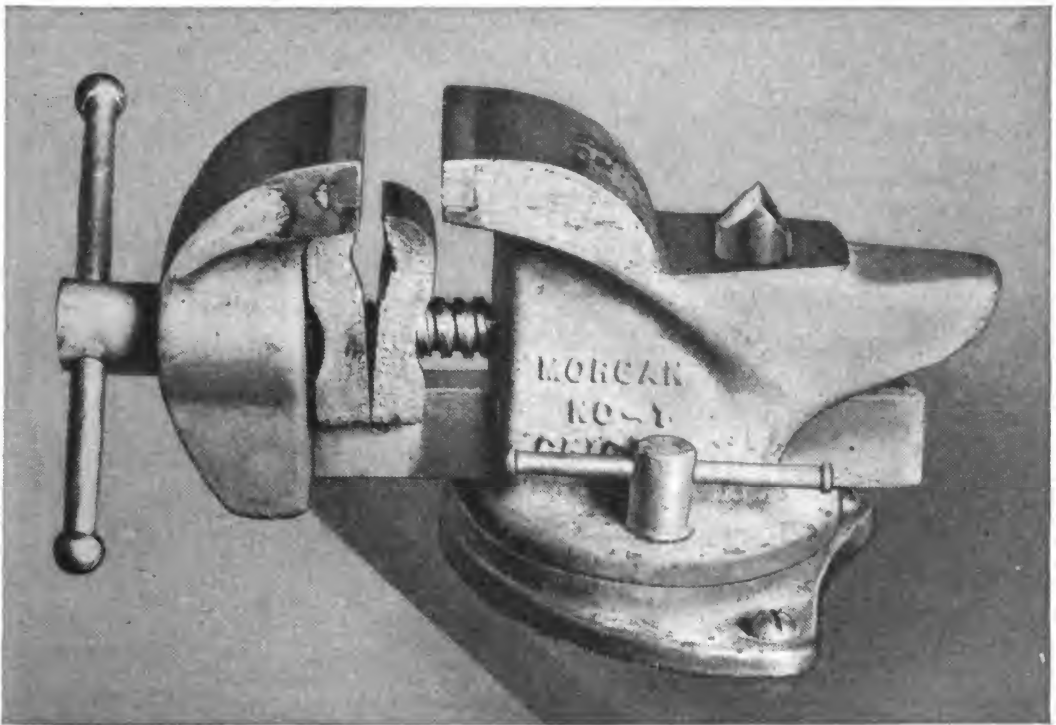

FIGURE 1.—Vise.
**3. Vise.**—a. The vise is a very important tool and is found in every well equipped shop. The vise is a tool for holding objects rigidly and consists of a base and two jaws which may be adjusted by a screw with a bar for a handle. Figure 1 illustrates a small vise suitable for a radio shop.